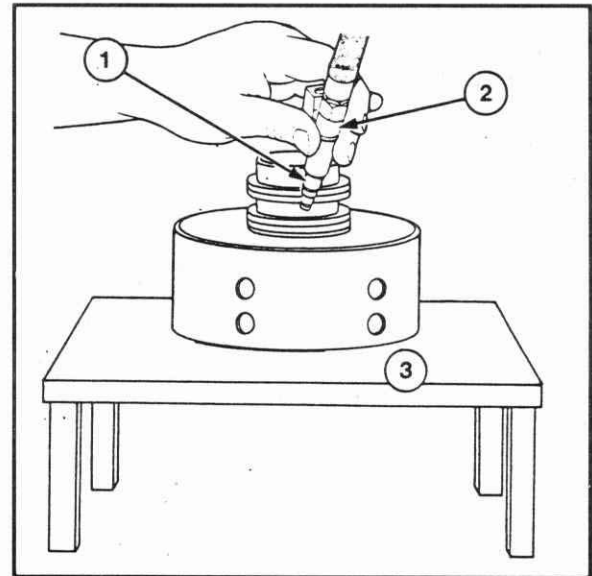

Figure 6-15
5. Turn the clutch so that the piston faces down on the bench and use air pressure to remove the piston, Figure 6-15.